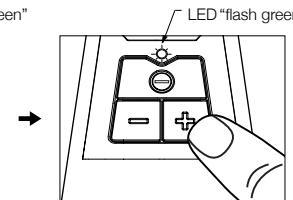

Figure 3
3. Adjust the speed by pressing "+" or "-" buttons on the button plate. Press "+" is to raise up to higher speed setting, "-" is to lower the speed setting. - see *figure 3*.